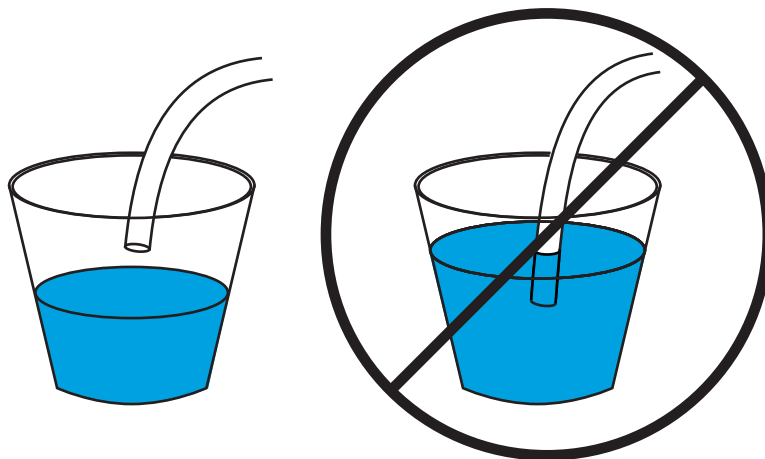

Figure 37 Drainage tube correctly hung (left) and incorrectly submersed (right)
- The open end of the tubing is not submersed in the drainage container (Figure 37).